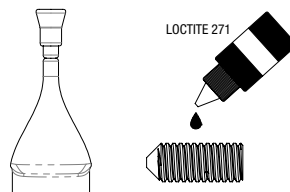

FIG 3
- a.) Prior to install, apply LOCTITE 271 (provided) to the set screw. **FIG 3.**